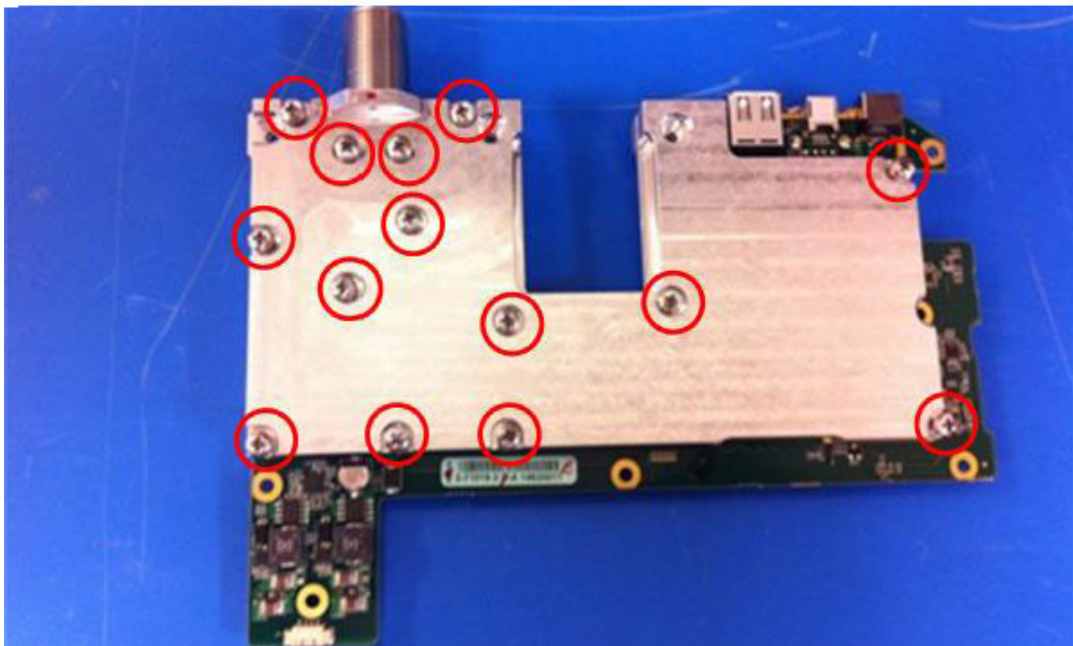

Figure 4-20. Shield Removal
5. Remove the two shields on the Main/VNA PCB assembly by removing the 14 screws shown in Figure 4-20.